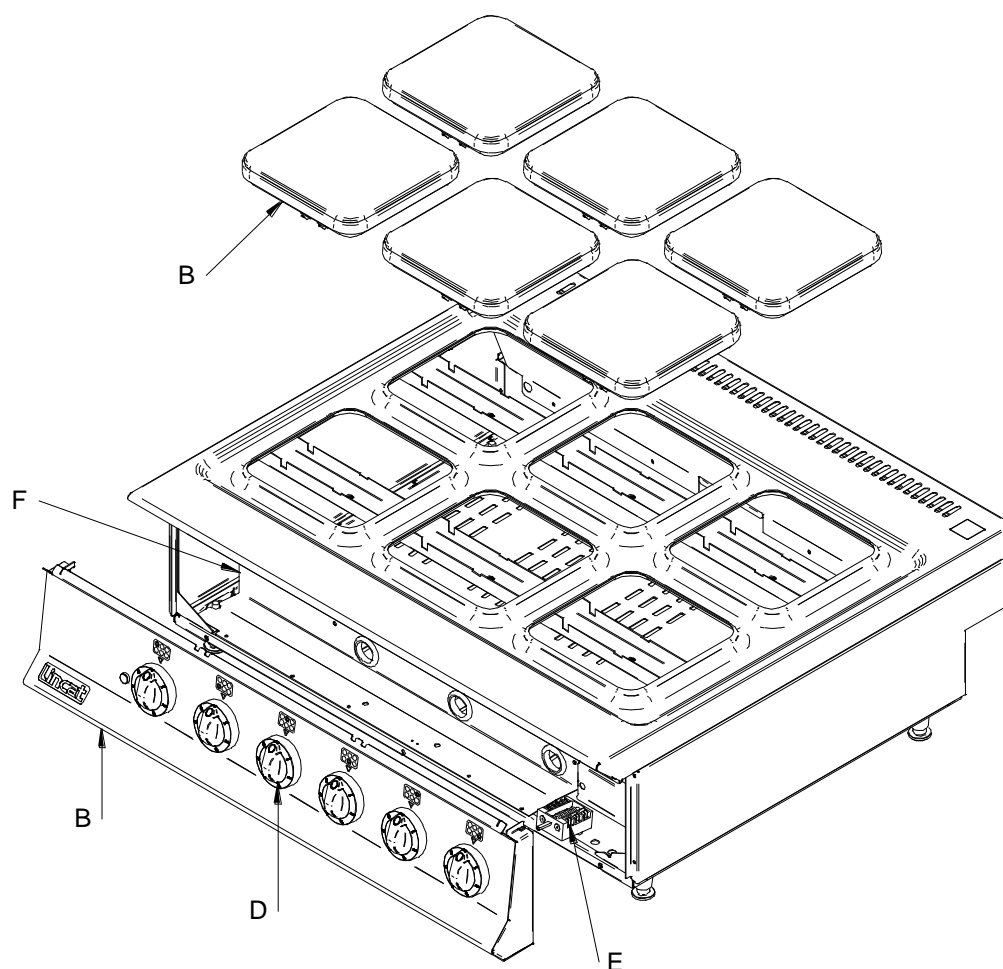

Fig 3
Replacement of some components requires removal of the fascia panel and heat shield (see Fig 3). Remove the screws beneath the fascia (B) and lift off. Be aware when lowering the fascia that electrical connections will still be made. When replacing heat shield (F) and fascia ensure cables are not trapped.